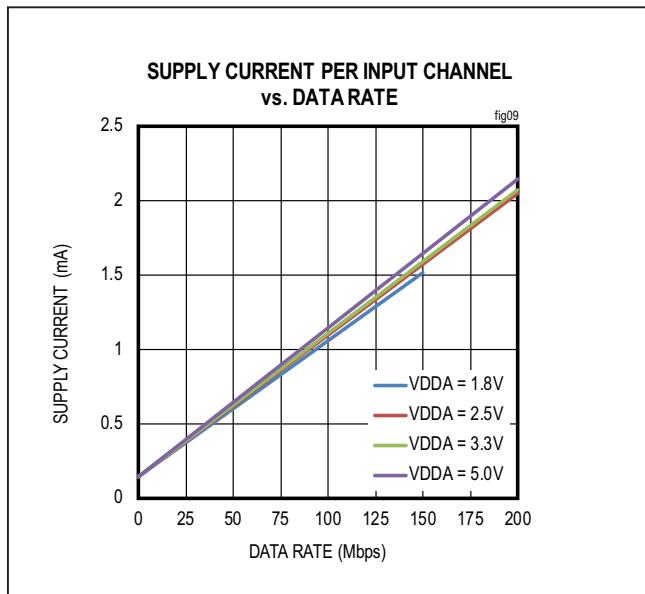
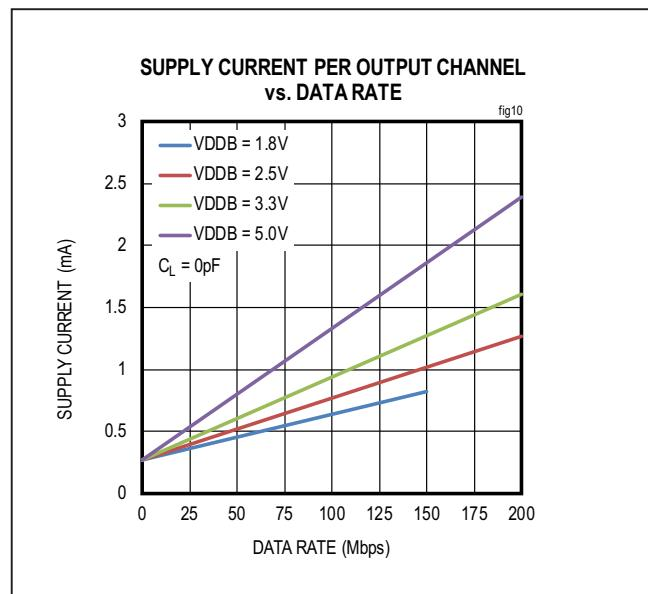

Figure 9. Supply Current Per Input Channel (Estimated)
Figure 10. Supply Current Per Output Channel (Estimated)
The required current for a given supply (V_{DDA} or V_{DDB}) can be estimated by summing the current required for each channel. The supply current for a channel depends on whether the channel is an input or an output, the channel's data rate, and the capacitive or resistive load if it is an output. The typical current for an input or output at any data rate can be estimated from the graphs in Figure 9 and Figure 10. Please note that the data in Figure 9 and Figure 10 are extrapolated from the supply current measurements in a typical operating condition.
The total current for a single channel is the sum of the “no load” current (shown in Figure 9 and Figure 10) which is a function of Voltage and Data Rate, and the “load current,” which depends on the type of load. Current into a capacitive load is a function of the load capacitance, the switching frequency, and the supply voltage.
- Channel 1 is an input channel operating at 2.5V and 20Mbps, consuming 0.33mA, estimated from Figure 9.
- Channel 2 and 3 are input channels operating at 2.5V with DC signal, consuming 0.14mA, estimated from Figure 9.